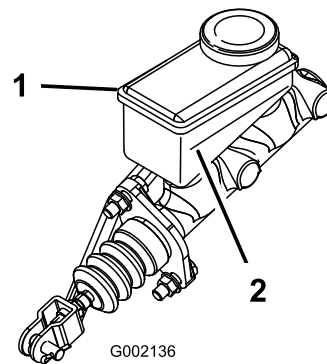

Figure 49
2. Look at the outline of the fluid level at the side of the reservoir (Figure 49).
- B. Add DOT 3 brake fluid to the reservoir until the fluid level is above the Minimum line (Figure 49).